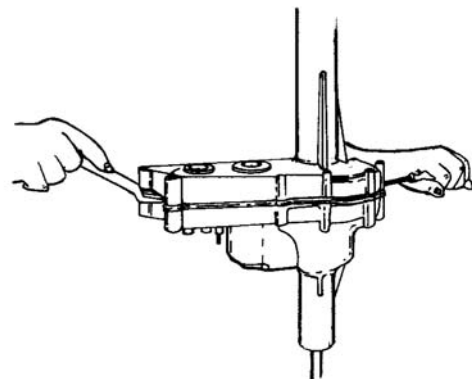

Figure 6-32. Prying Halves Apart
9. Carefully pry halves apart in areas shown in Figure 6-32.